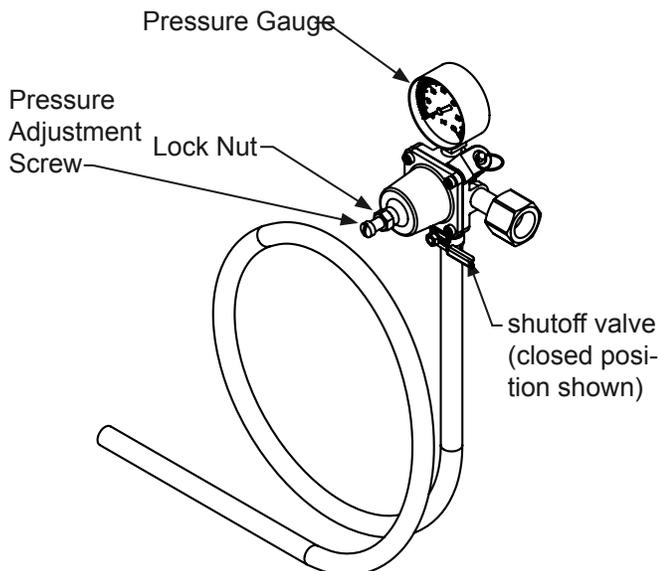
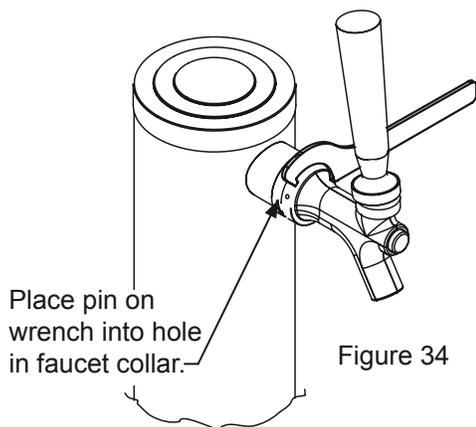

Figure 28 (Regulator for Single Dispense Tower)
Figure 34
2. Be sure the faucet handle is closed on the tower (see Figure 28).
Turn off the gas supply with the shutoff valve(s) under the regulator (see Figure 28 or 29) and open the faucet to relieve the pressure. To remove the faucet from the tower use the spanner wrench provided. Place the pin on the wrench into the hole on the faucet collar and turn clockwise to remove the faucet. (See Figure 34). Remove the knurled cap from the faucet body just below the handle and pull the handle assembly from the faucet. This will allow the shaft to be removed from the back of the faucet, see Figure 35.